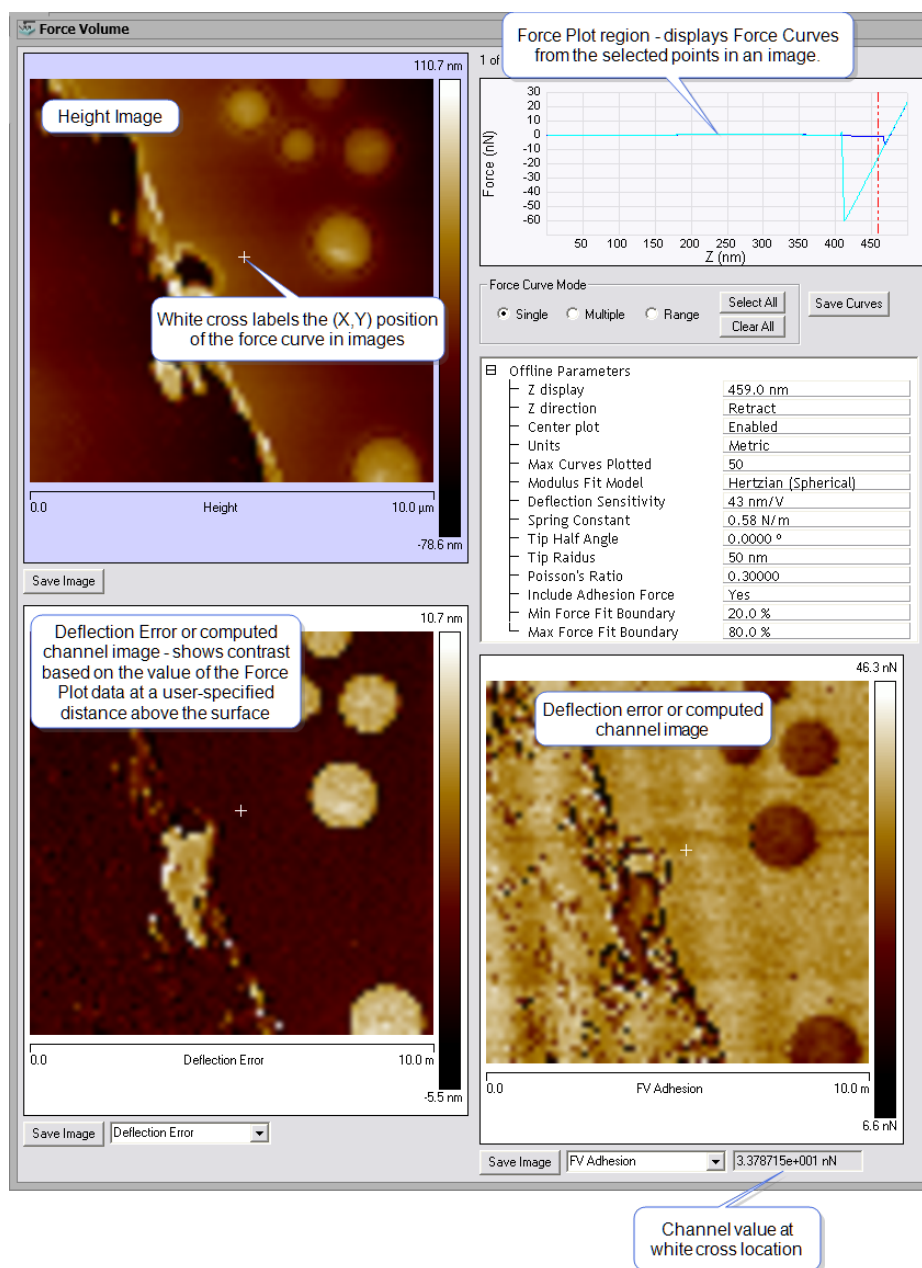

Figure 7.4a: Initial Force Volume View
1. Display individual force curves by first opening the file and then selecting the **Single** radio button from the **Force Curve Mode** selection dialog. Click the left mouse button on a specific pixel in any of the 3 images to display the associated **Force Curve** in the **Force Plot** region (see Figure 7.4a).